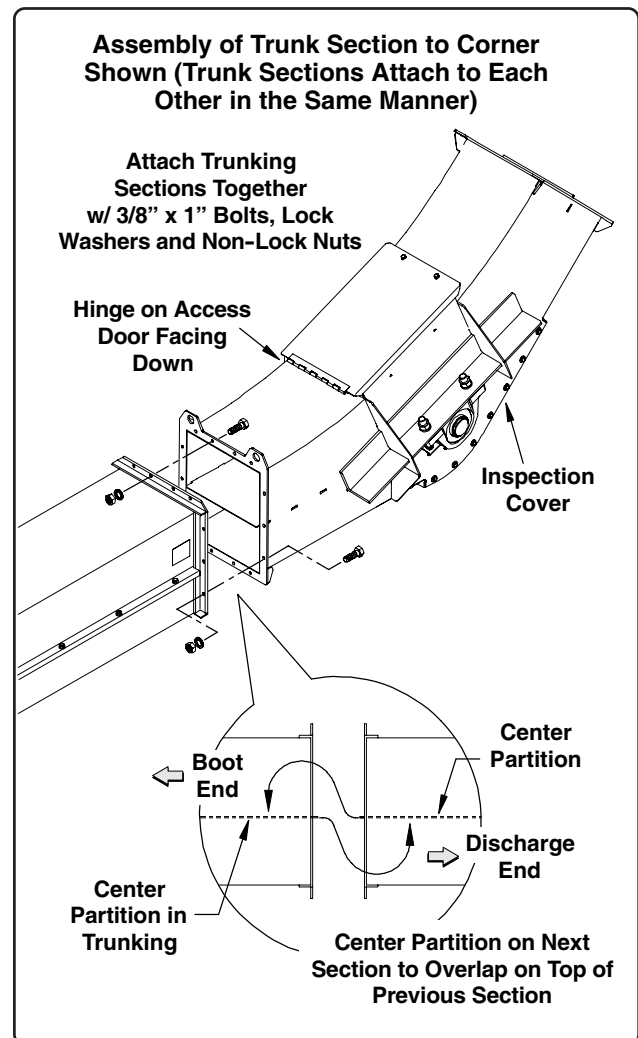

Fig. 7
2. Note the center partition in each of the trunk housings. During assembly, the center partition in the next trunk to be installed will overlap on top of the center partition of the previous section (See Fig. 7). The reason for the over lap is so that the paddles in the upper section (when traveling back to the boot end) will have a smooth transition from trunk section to trunk section.
Fig. 7 shows a trunk section being attached to a corner section. Any trunk section can be attached to a corner section but, **a boot section cannot be attached to a corner section.**
When installing a corner section, ensure that the inspection door is accessible and oriented as shown in Fig. 7, and that the hinge on the access door is facing down.